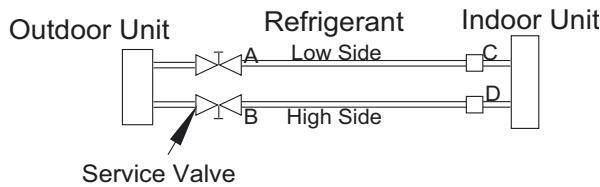

Fig. 10 – Service Valve
1. Completely tighten the flare nuts (A, B, C, D, E). Fully open all circuits service valves. Connect the manifold gage charge hose to the charge port of the low side Master service valve to evacuate all circuits at the same time (see Fig. 10).